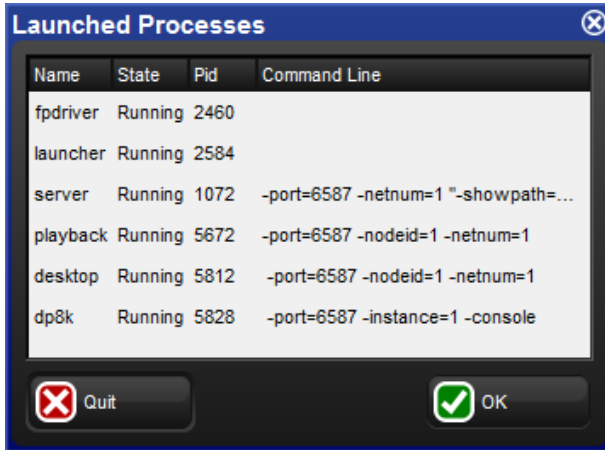

Figure 32.1. The Launched Processes window
1. **Pig + Open + Backspace** : open the Launched Processes window; see *Figure 32.1, "The Launched Processes window"*.